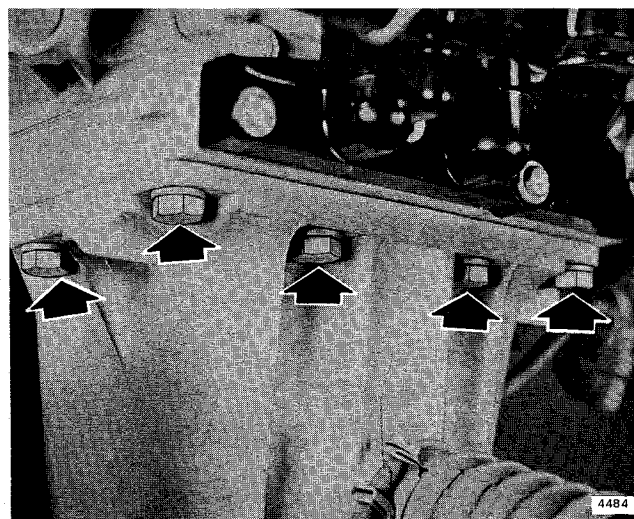

Figure 5-7. Removing Power Head Screws
i. Remove six nuts and six screws attaching power head to exhaust tube. See Figures 5-7 and 5-8. Lift power head from exhaust tube and place on bench for disassembly. Hosit may be used if available by re-attaching manual starter with lifting bail. Power